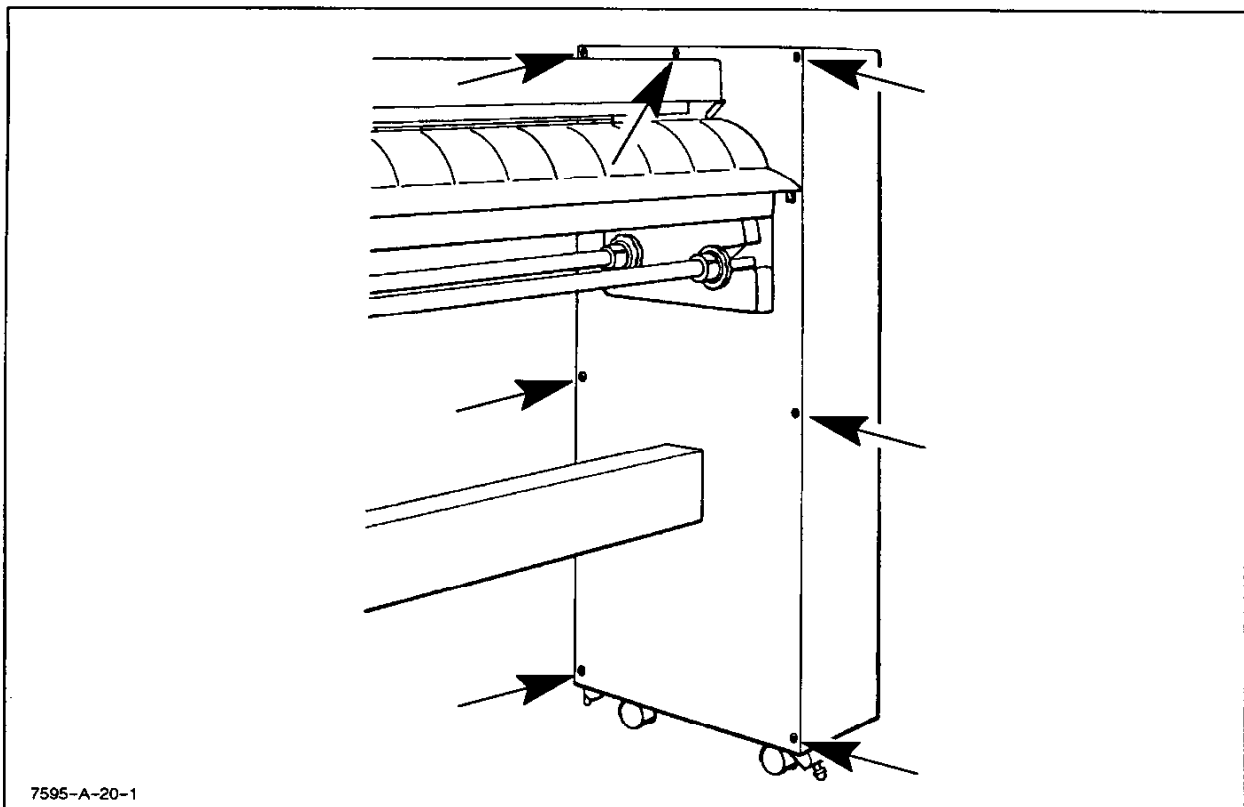

Figure 6-4. Opening the Plotter
- b. Remove the seven mounting screws (Torx #25) from the right side cover. See Figure 6-4.